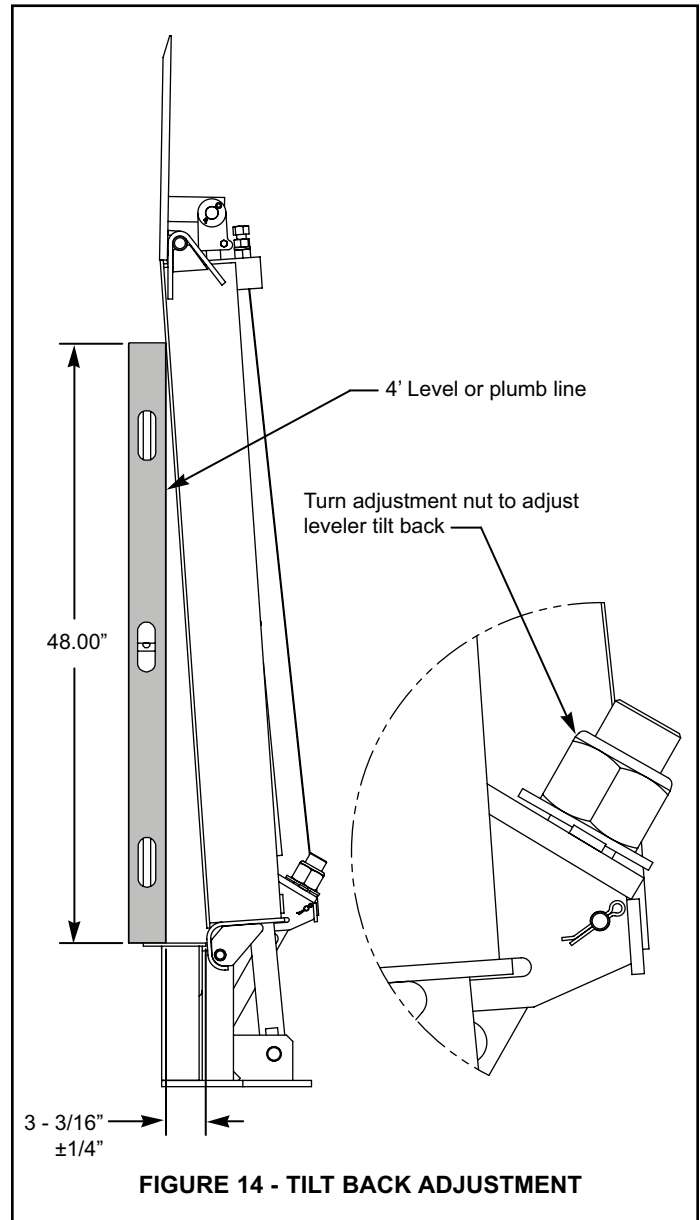

FIGURE 14 - TILT BACK ADJUSTMENT
2. Check that the leveler is tilted back the proper distance using a 4' level or plumb line held plumb. Place the level against the platform and flush with dock floor. See figure 14.
3. Adjust the tilt back, if necessary, by adjusting the nut on the leveler tilt back rod. See figure 14.